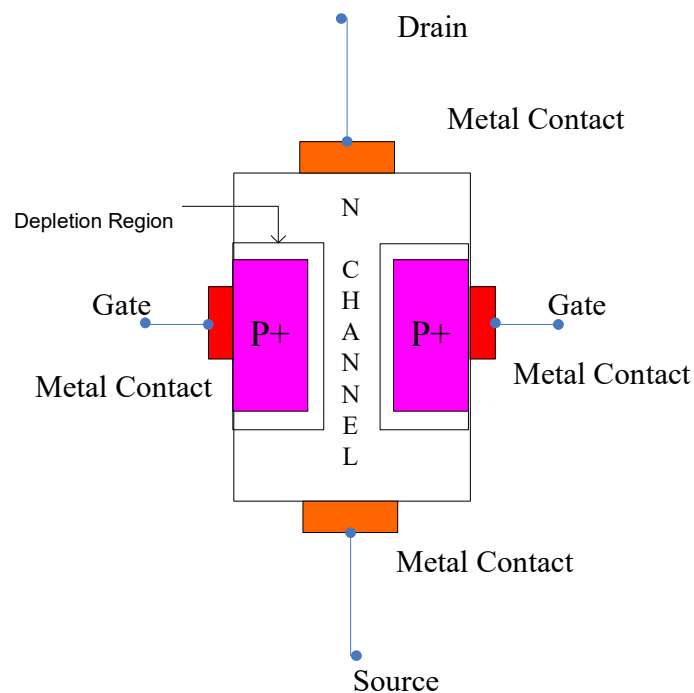

Fig.4.2: Construction of N-Channel JFET
The schematic view of construction of n-channel JFET is shown in Fig. 4.2. There are three terminals in the structure namely (i) Drain (D) (ii) Gate (G) (iii) Source (S) .
For n-channel JFET, channel is n-type material. Gate material is opposite to channel type i.e. for n-channel JFET; channel is p-type material. Gate region is heavily doped compared to channel. Here  $P^+$  indicates heavily doped region with p-type material. In the schematic structure (Fig.4.2), channel region is belonging between gate regions. Metal contacts are employed for terminal contact i.e. to connect the device with circuitry. As shown in the diagram (Fig. 4.2) the JFET structure is symmetrical. Basically all the FETs structure is symmetrical.